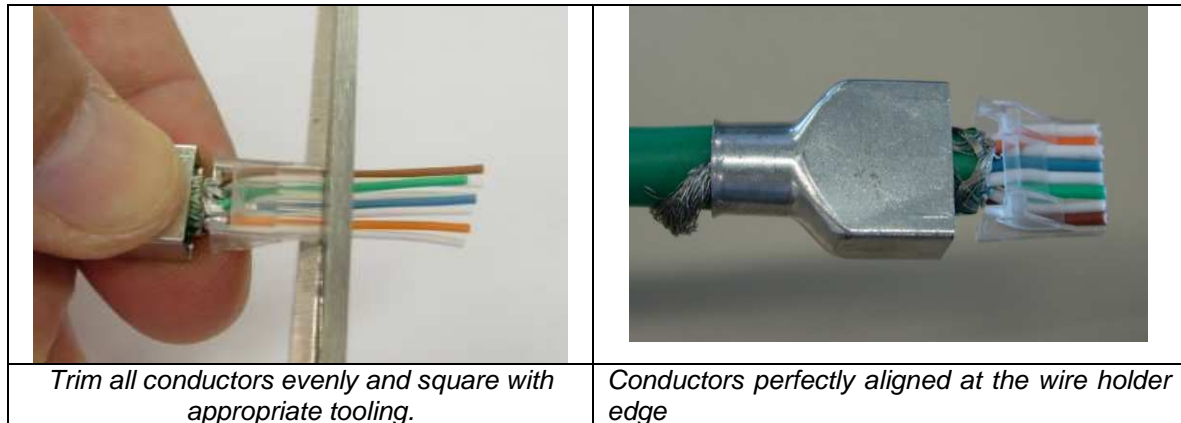

Figure 8
5. While holding all conductors down against the wire holder in a flat layer, trim all conductors evenly and square with appropriate tooling, just beyond the front edge of the wire holder as shown in fig. 8.